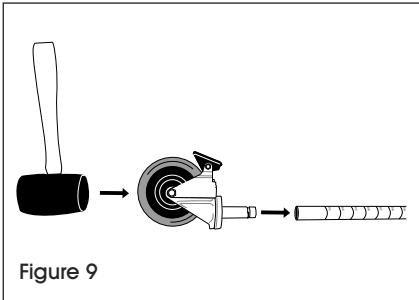

Figure 9
6. Carefully rest unit on end with handle. Using a rubber mallet, tap the casters into the bottom of the posts until flush. (See Figure 9)